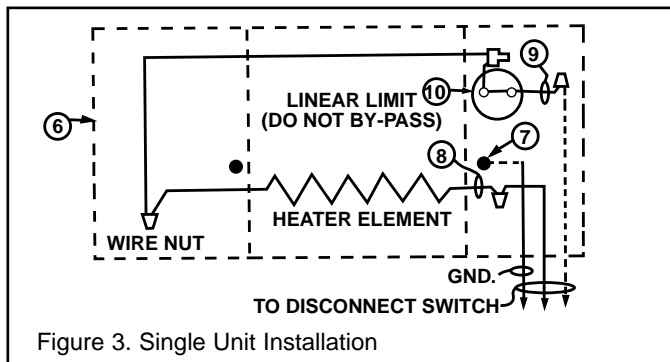

Figure 3. Single Unit Installation
- Following wiring diagram, Figure 3, make electrical connections in junction box by removing wire nut from heater wires (8 & 9) and making electrical connection to supply wires. Connect ground wire to green grounding screw (7) in junction box.